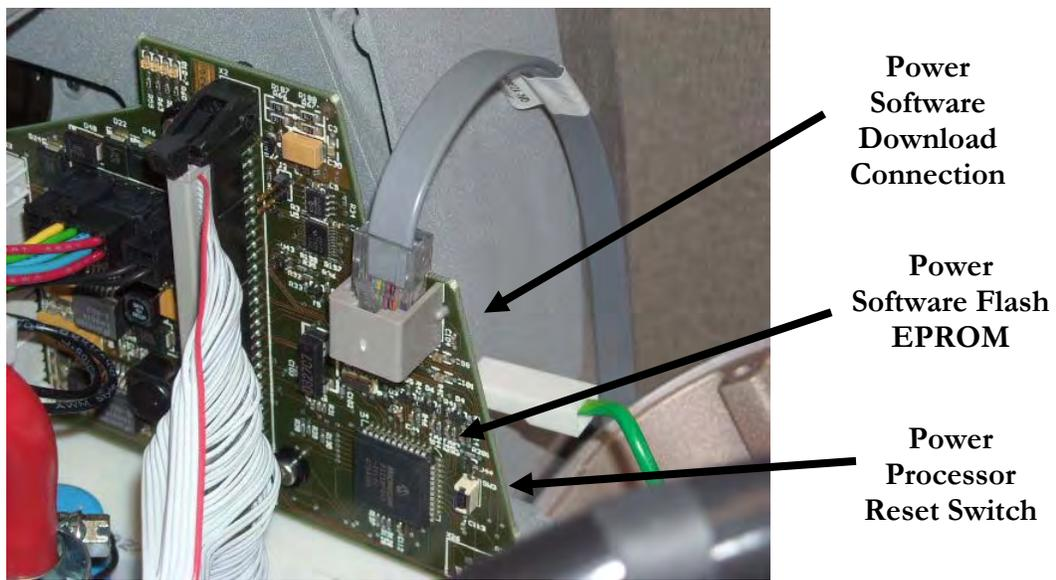

Figure 12-6
- Whenever prompted to do this, press the power processor reset switch positioned immediately adjacent to the Power board Flash EPROM. See Figure 12-6.